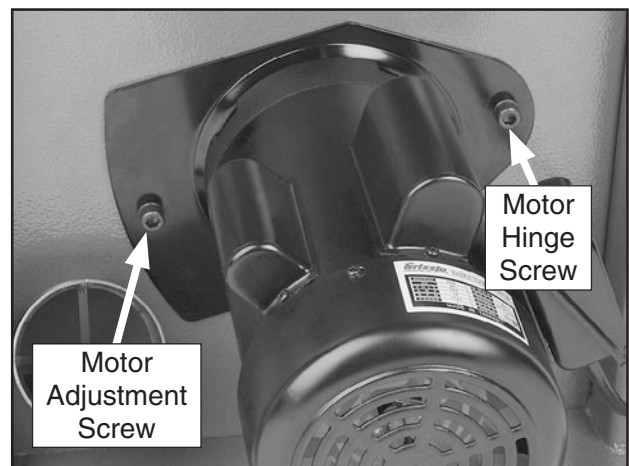

Figure 85. Motor mount screws.
3. Loosen the motor mount screws shown in **Figure 85**.